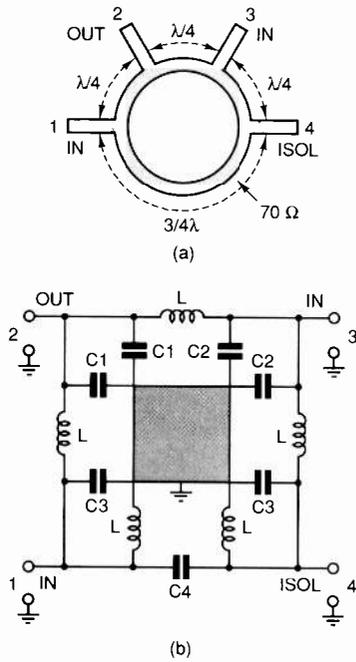

Fig. 4. Ring hybrid (a) and its lumped equivalent (b). In b, C1 and C2 can be paralleled into single units twice the value.
- 3λ/2 ring coupler (commonly known as rat-race, Fig. 4);
The hybrid ring, $(3/2)\lambda$ hybrid or "rat race" (Fig. 4) as it is commonly called is a directional coupler that can be used to sample rf power travelling in different directions. As a result, it is also adaptable for mixer, power splitter, and combiner applications.